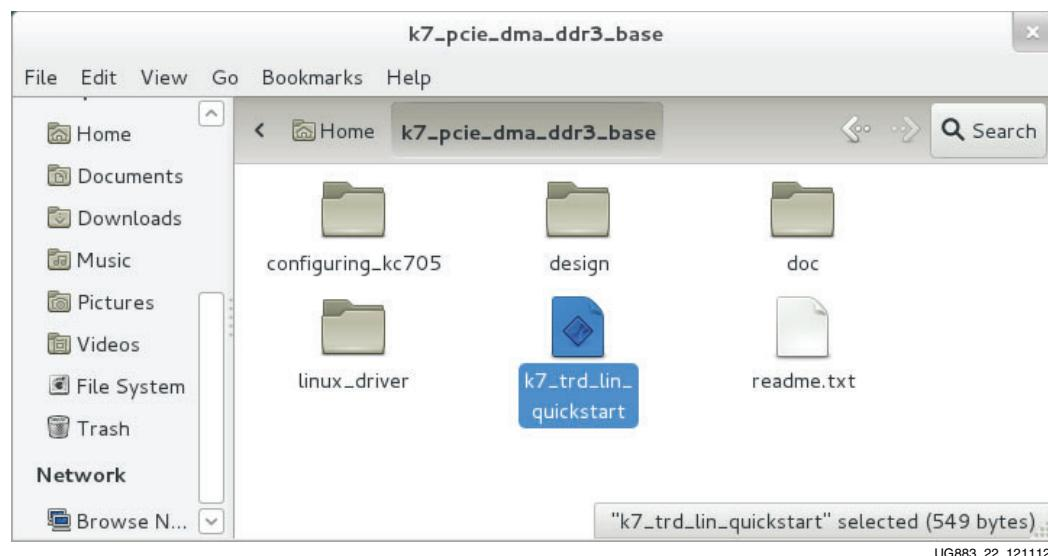

Figure 22: Launch the Performance Monitor and Status GUI
- b. Double-click `k7_lin_trd_quickstart` (Figure 22)—make sure that the script has executable permission—to launch the Performance Monitor and Status GUI.